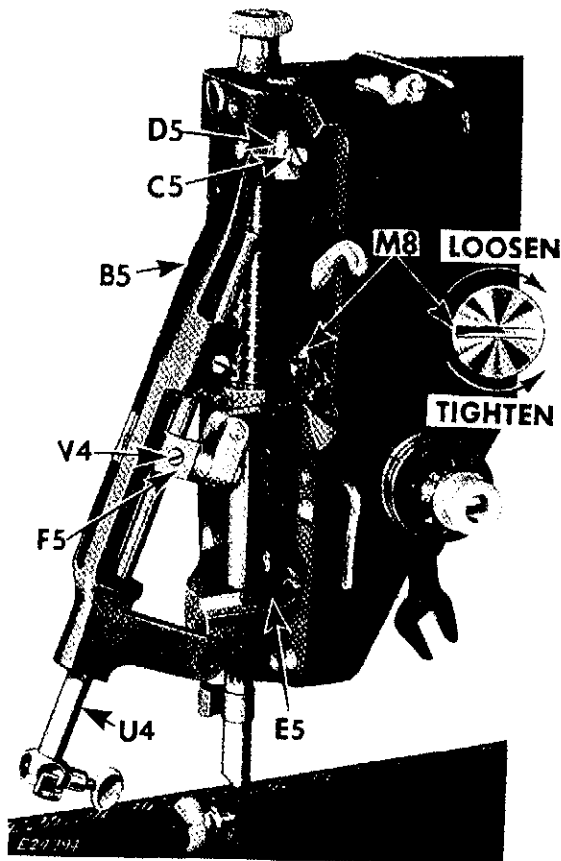

Fig. 69. Needle Bar Holder Removal and Replacement
5. Care should be taken not to lose floating spring **E5**, Fig. 69 which gives sidewise tension to needle bar holder.
6. Turn hand wheel clockwise until a screwdriver can be easily inserted into slot of cap screw **M8**, Figs. 69 and 70. Then turn cap screw clockwise and remove it.
7. Remove hinge screw **C5**, Fig. 69 from supporting bracket **D5** and remove needle bar holder.
2. Place top of needle bar holder **B5**, **Fig. 69** into supporting bracket **D5**. Then insert hinge screw **C5** and tighten carefully to avoid stripping threads. (Use finger tip pressure.)
3. Place top of connecting link on thread take-up crank and turn cap screw **M8**, **Figs. 69 and 70** counter-clockwise and securely tighten.